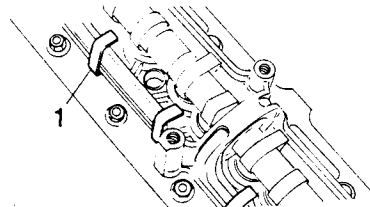

Fig B4.43
Refer to Fig B4.43. Special tool 18G1218 (tappet retaining clips) (1) may be used to prevent the followers falling out during this operation.
- (9) On the bench remove the cam followers with their adjusting shims, maintaining them in the order in which they were removed.
- (10) Remove the camshaft locating plate (4).
- (11) Remove the camshaft in the direction of arrow A.